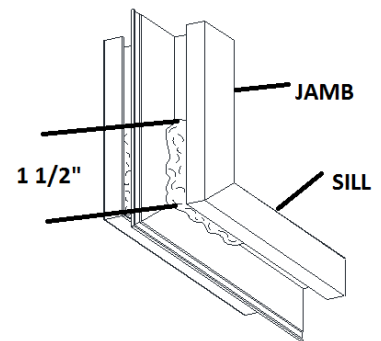

Figure 6:
- Apply a heavy bead of sealant to the interior side of the mounting flange (nail-on) where the frame jamb and sill join. Sealant must cover the entire joint (from the flange to the inside leg) and extend 1-1/2" up the jamb and along the sill (Figure 6).